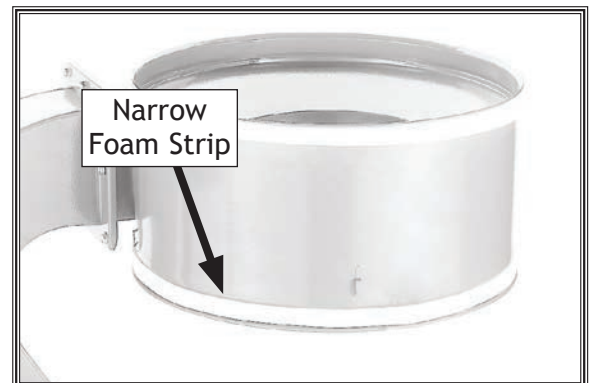

Figure 14. Foam strip installed around bottom of collector.
10. Wrap a foam strip around the outside bottom rim of the collector and trim the excess, as shown in **Figure 14**.